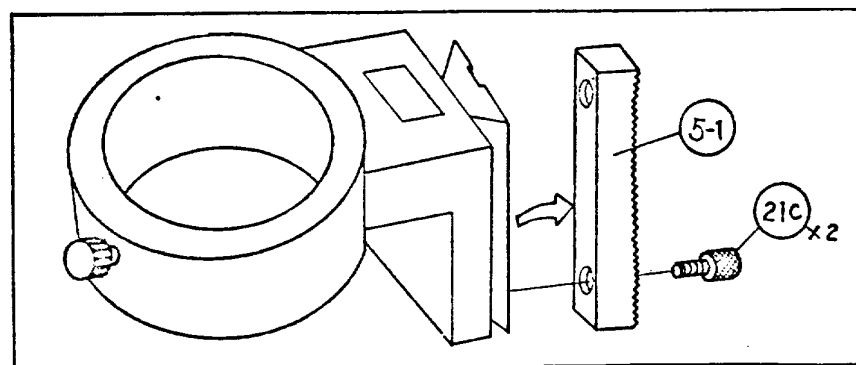

Fig. 64
- 3) Unscrewing the HS bolt (21C), remove the rack (6-1) (Fig. 64).